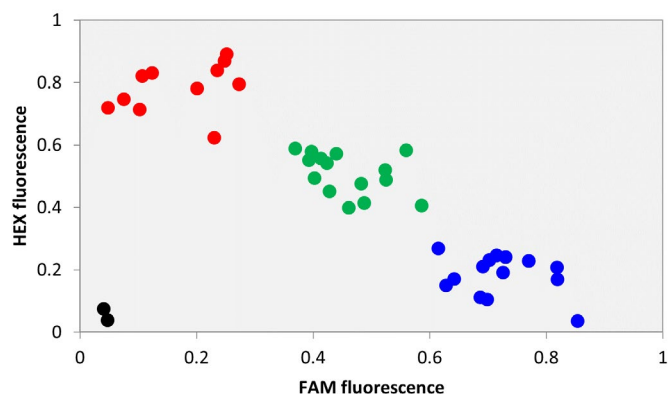

Figure 2. Genotyping clusters are not distinct or tight, and data points are scattered across the plot.
**Plot characteristics:** genotyping clusters are not distinct or tight, data points are scattered (figure 2).